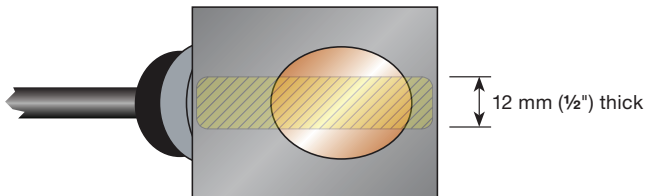

Fig. 20 Application of couplant
- 5) For UTT10-050S, UTT10-050L and UTT10-050H transducers, place a single bead of couplant, approximately 12 mm ($\frac{1}{2}$ ") thick, on the flat face of the transducer. See *Fig. 20*. Generally, a silicone-based grease is used as an acoustic couplant, but any good quality grease-like substance that is rated to not 'flow' at the temperature that the pipe may operate at will be acceptable.